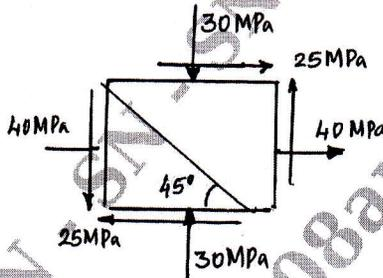

Fig. Q1 (c)
c. A point in a structural member is subjected to plane stress as shown in Fig. Q1 (c). Determine the following :